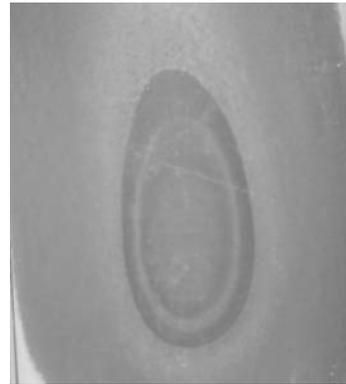

FIGURE 6: Typical Discoloration Pattern
- ii. Normal heat pattern may include light to dark gray discoloration. See Figure 6.